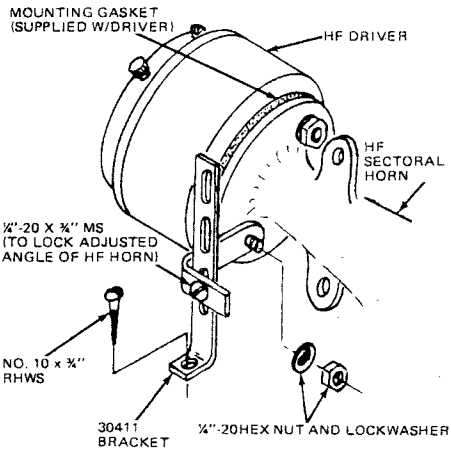

Figure 5. HF Driver and Horn Assembly
- toral horn as shown, using two 1/4"-20 hex nuts and lockwashers. Make sure horn mounting gasket is not damaged. Assemble two parts of 30411 Horn Mounting Bracket together, using 1/4"-20 x 3/4" machine screw, lockwasher, and nut as shown in Figure 5. Do not tighten.
- Install 30411 bracket on 828B cabinet with a No. 10 x 3/4" round-head wood screw (see Figure 5).